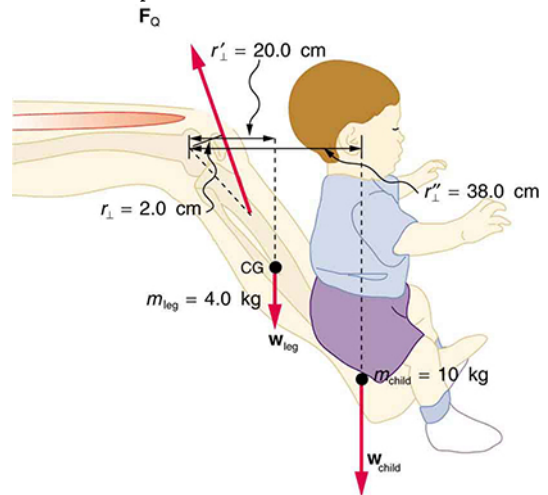

Figure 9.42 A child being lifted by a father's lower leg.
34. A father lifts his child as shown in Figure 9.42. What force should the upper leg muscle exert to lift the child at a constant speed?